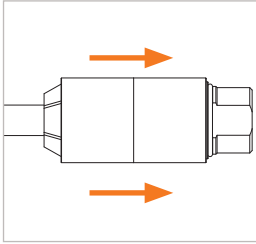

Figure 7
- ▶ Pull the sliding sleeve back (Pos. 1) (Figure 7). The connection to the test piece is released and the connector can be removed by pulling it straight back.